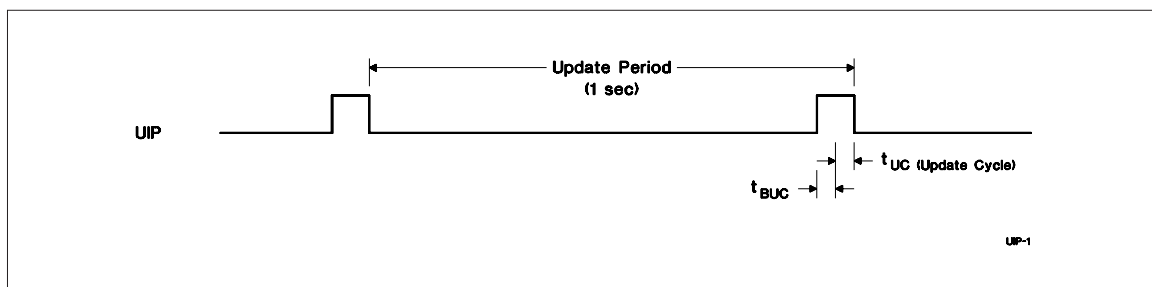

Figure 2. Update Period Timing and UIP
update period (see Figure 2). The alarm flag bit may also be set during the update cycle.
The update-in-progress bit (UIP) in register A is set  $t_{BUC}$  time before the beginning of an update cycle (see Figure 2). This bit is cleared and the update-complete flag (UF) is set at the end of the update cycle.